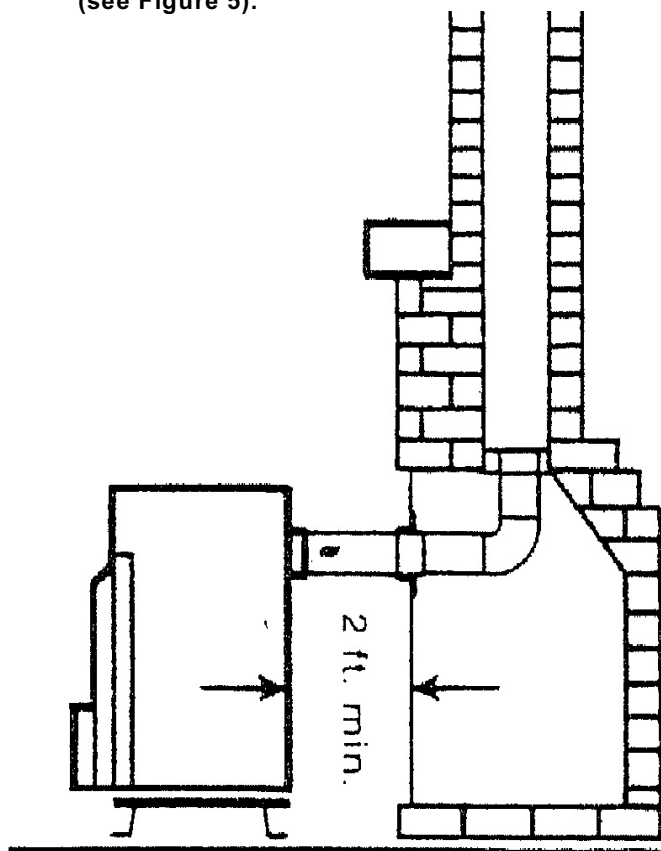

Figure 5
3. **Brick Chimney with Fireplace:** The heater can be vented into the fireplace by sealing the opening with noncombustible material and material and extending the connector pipe into the chimney damper. Refer to your local codes (see Figure 5).